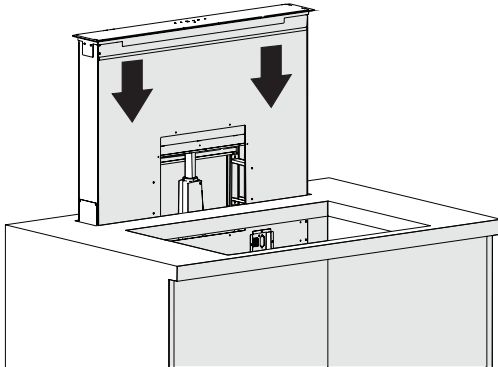

Fig. 16
- ➔ ■ Place the hob carefully inside the discharge that you have prepared on the kitchen counter (Fig. 16).